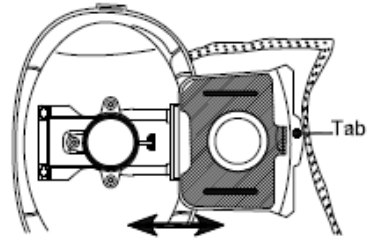

Fig. 2
2. To connect the hose and attachment wand, slide the hose over the hose end wand attachment and over the bump by approx. 1/2". (Fig. 2)
(Fig. 2)
2. Pull the tab on the HEPA bag holder out slightly and flip upwards. (Fig. 2)